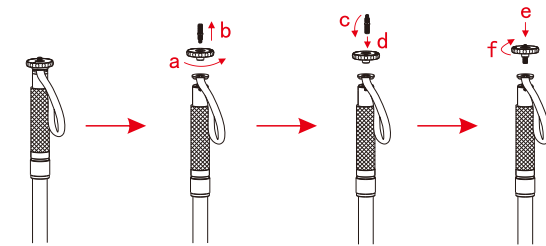

Figure 6
3. Converting the Mounting Screw (as figure 6)